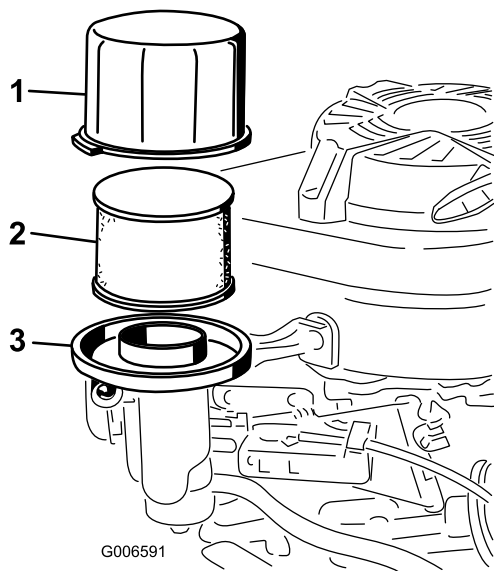

Figure 27
3. Remove the cover and clean it thoroughly (Figure 27).
4. Remove the foam pre-filter and paper filter (Figure 27).
5. Remove the foam pre-filter from the paper filter (Figure 27), and replace the paper filter if it is excessively dirty.